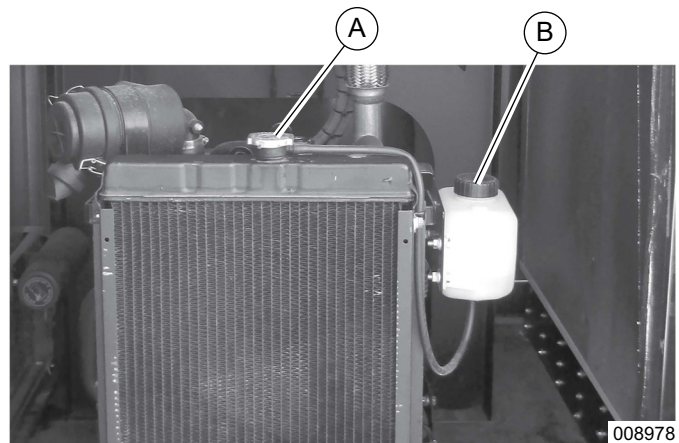

Figure 4-2. Radiator Location
3. See Figure 4-2. Remove radiator cap (A).